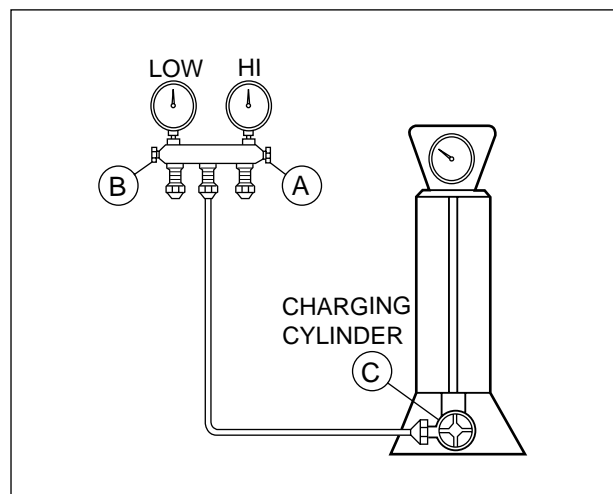

Figure 17B-Charging
- 2) Connect the charging cylinder as shown in Figure 17B.